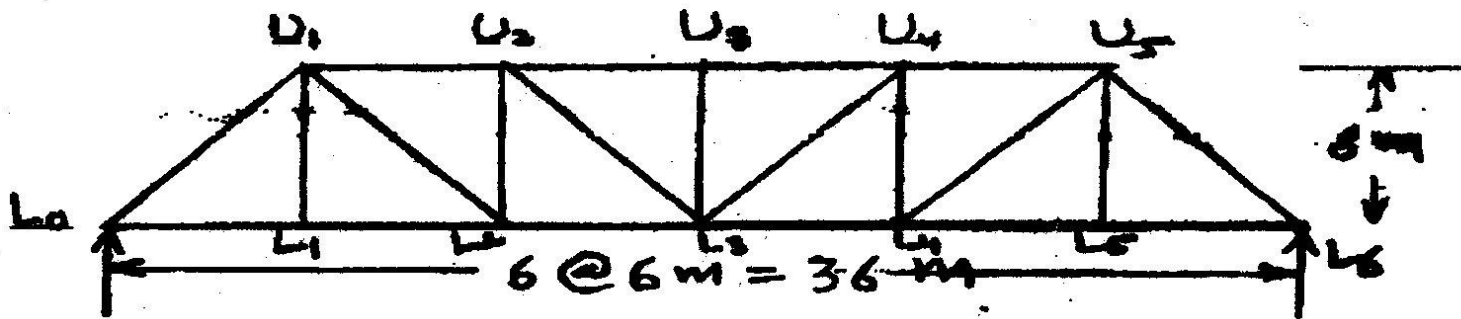

Fig 1
3. (a) Draw I.L.D. for forces in members U_2U_3 , L_2L_3 and U_1L_1 of a Pratt Truss Girder shown in fig. 1 8